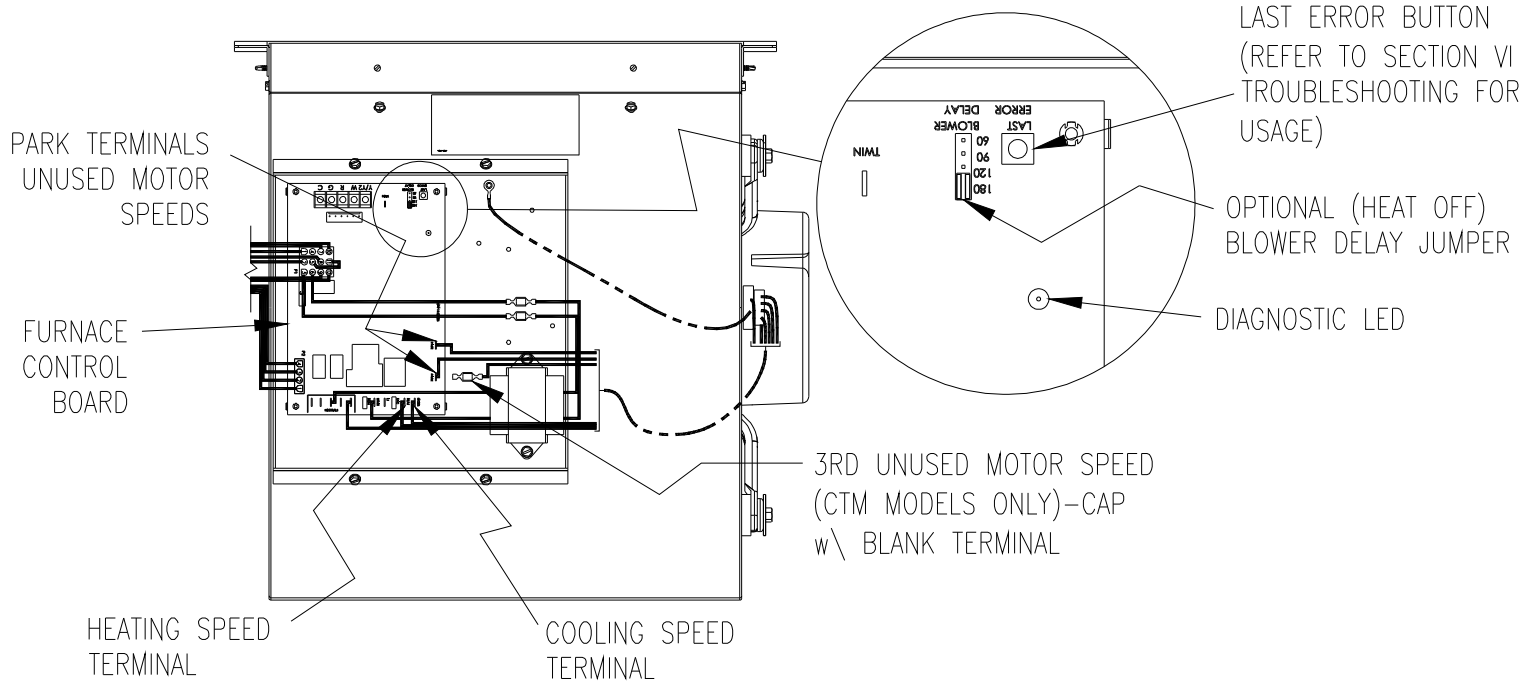

Figure 13
The ignition module on this furnace has designated terminals to control the operation of an electronic air cleaner and/or humidifier. These terminals provide line voltage (1.0 Amp @ 120VAC) for the control of these accessories (See Figures 13 & 14). The Humidifier is energized whenever the combustion inducer motor is energized. The EAC is energized whenever the circulation blower motor is energized for heating or cooling.
- B. The optional blower delay jumpers on the integrated control (Figure 13) are used to determine the length of the heat delay-to-fan-off periods. The delay-to-fan-on period is preset and non-adjustable. The available options for the delay-to-fan-off are as follows: 60, 90, 120 & 180 sec.